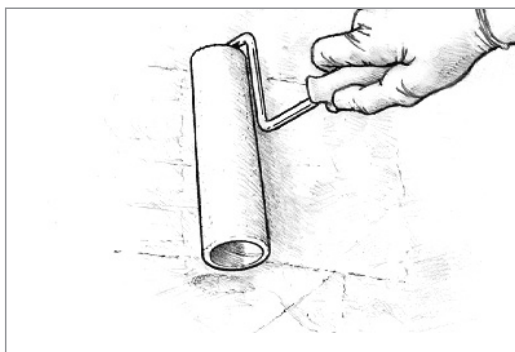

Figure 6-17 Apply the epoxy in thin even coats using a thin foam roller.
4. Roll lightly and randomly over an area approximately 2 ft x 2 ft to transfer the epoxy evenly over the area (Figure 6-17).